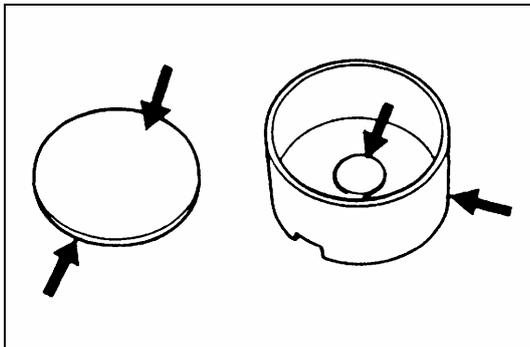

Fig 4-159
1) According to position in fig.4-159, check valve clearance gasket and tappet for cavitations, scratched and damaged, replace them if necessary.